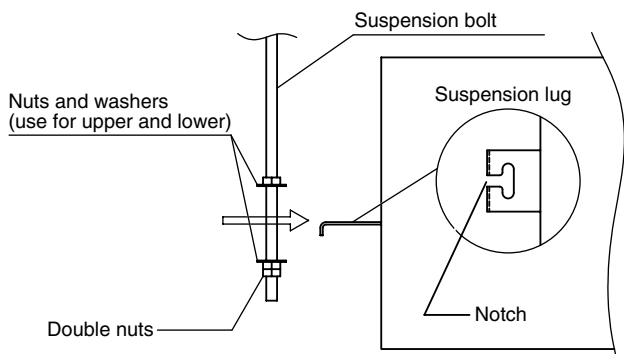

Fig. 3-60
- (3) Thread the 3 hexagonal nuts and 2 washers (field supply) onto each of the 4 suspension bolts (Figs. 3-60 and 3-61). Use 1 nut and 1 washer for the upper part, and 2 nuts and 1 washer for the lower part, so that the unit will not fall off the suspension lugs.